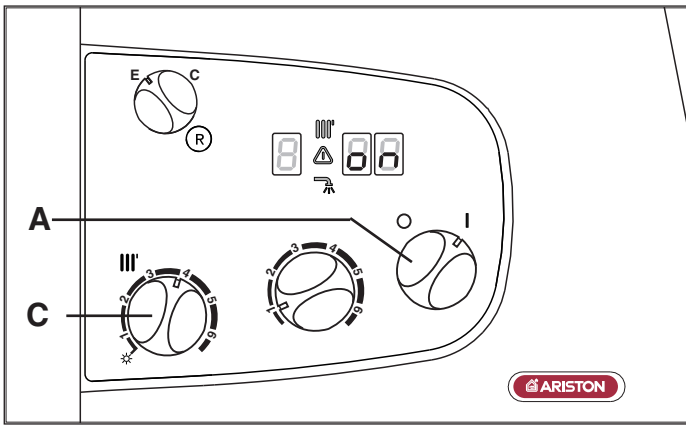

FIG. 3.2
- Supply power to the boiler by turning the On/Off knob "A" (see Fig. 3.2) - on the display will appear "on". Turn the knob "C" to maximum and switch the time clock to constant.